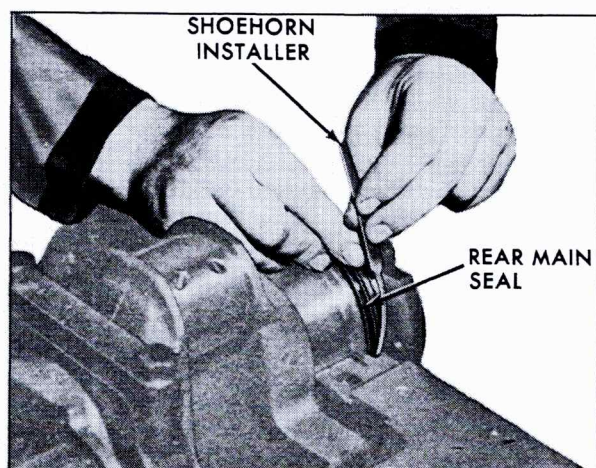

Fig. 6-119 Installing Rear Main Oil Seal
8. To install lower half of seal into the bearing cap, slide either end of seal into position at one end of bearing cap and place tool in groove at other end of bearing, Fig. 6-119. Make sure the seal is positioned in the groove and the lip of the seal is facing forward (car position).
11. To install upper half of seal in cylinder block (with crankshaft in car), position "shoe-horn" in groove of block. Start seal into groove in block with lip facing forward and rotate seal into position, using care not to distort seal, Fig. 6-119.